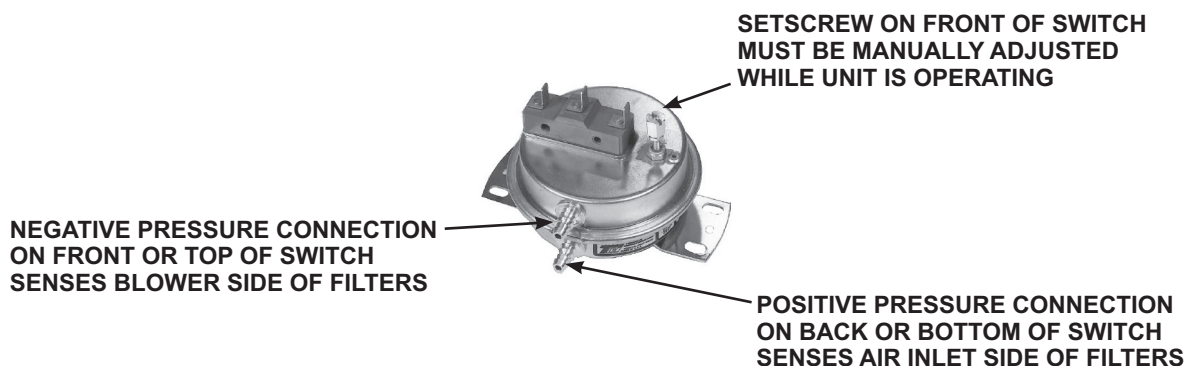

Figure 29. Dirty Filter Switch
1. With clean filters in place, blower doors closed (except electrical compartment), and blower operating, decrease pressure setting by adjusting setscrew on switch (see Figure 29) clockwise until indicator light is energized or setscrew is bottomed out.